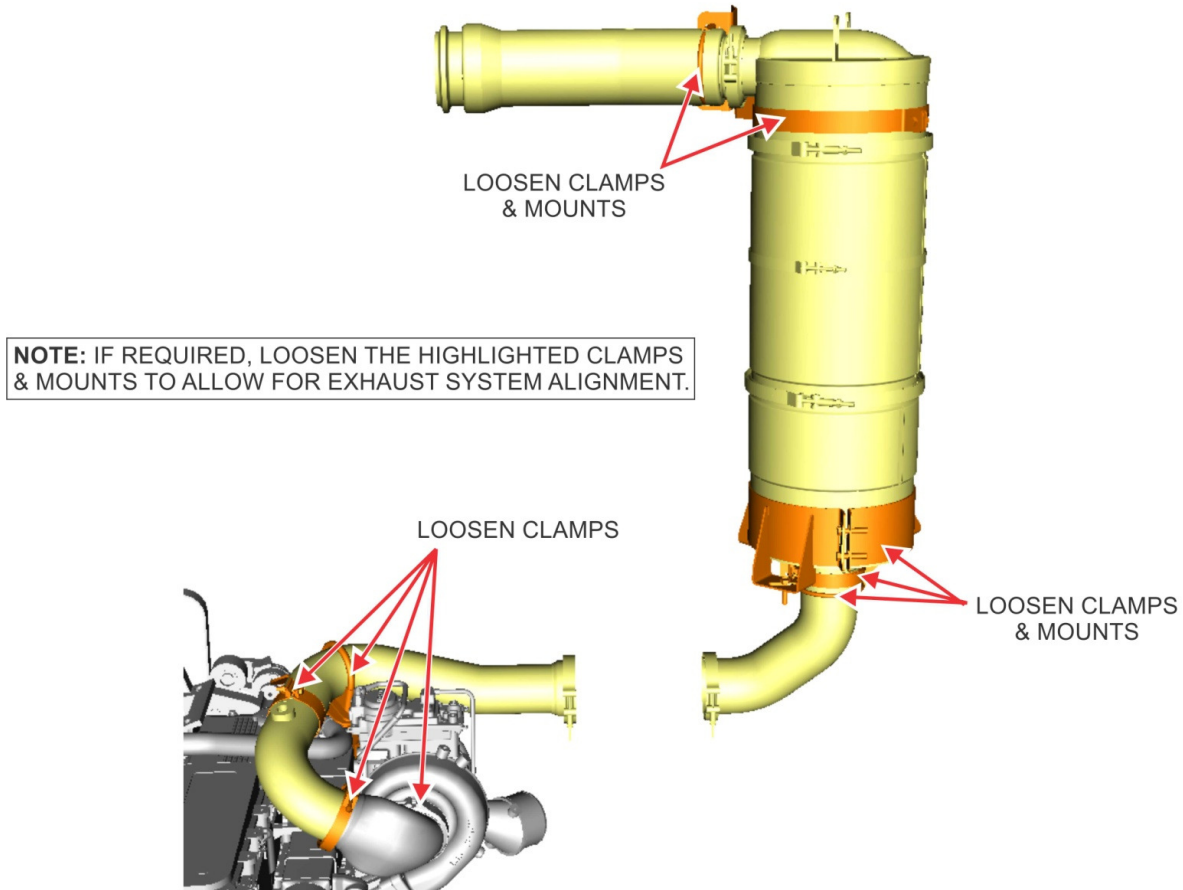

Figure 3: Exhaust Tube and Muffler Installation
- ☞ **NOTE:** Adjustment of muffler and/or exhaust tubes might be necessary to achieve proper alignment. If the tool does not align or does not fit between the exhaust tube ends, loosen the following: upper muffler clamp and 3 lower muffler base bolts, muffler elbow V-band clamp, turbo to flex connector tube band clamp, exhaust tube U-bolt and turbo elbow V-band clamp (Figure 3). Install the tool to exhaust tubes. Adjust and tighten the clamps to achieve proper alignment.